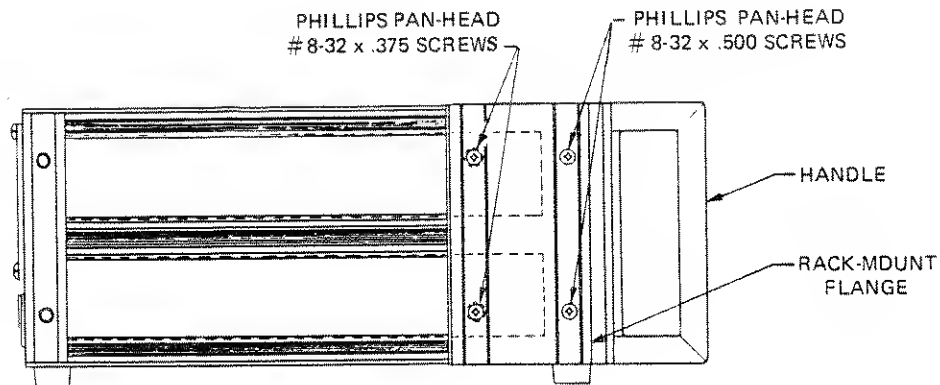

Figure 2-11 - 1250 Side View (Left)
- 2.8.1 **Standard Mounting** - refer to Figures 2-11 and 2-12 and complete steps a-e to install the Option 90 on the front of the 1250.
- a. Refer to Figure 2-11. Remove the two phillips panhead #8-32 x 3/8 screws and two phillips panhead #8-32 x 1/2 screws from each side of the 1250